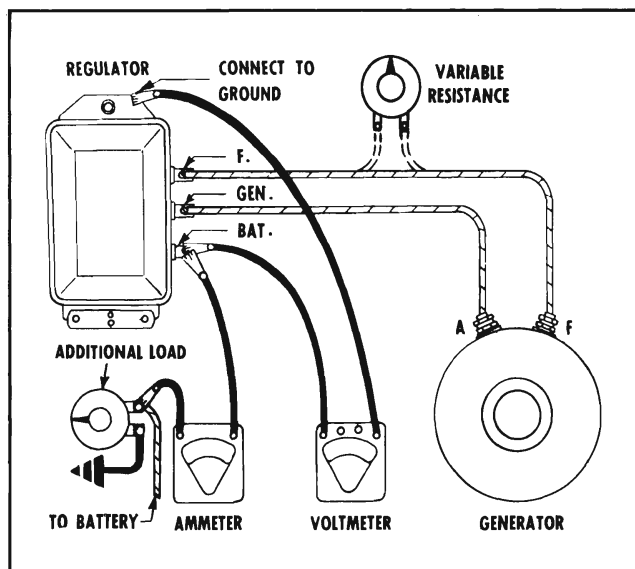

Fig. 11-43 Checking Current Regulator
1. Connect an ammeter into the charging circuit and connect voltmeter from "Bat" to ground (Fig. 11-43).